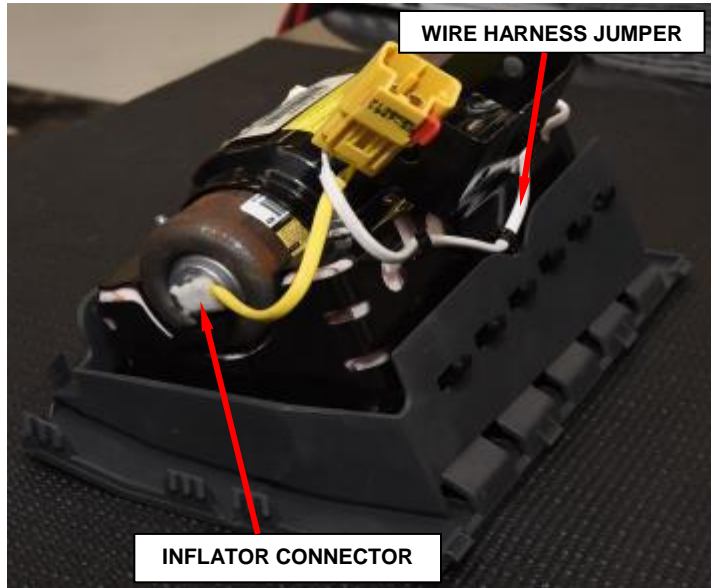

Figure 34 – Inflator Connector
b. Disconnect the single yellow wire inflator connector from the end of the inflator using pliers (Figure 34).
- i. Connect the single yellow wire inflator connector to the end of the inflator after removing the protective tape from the end of the inflator (Figure 34).